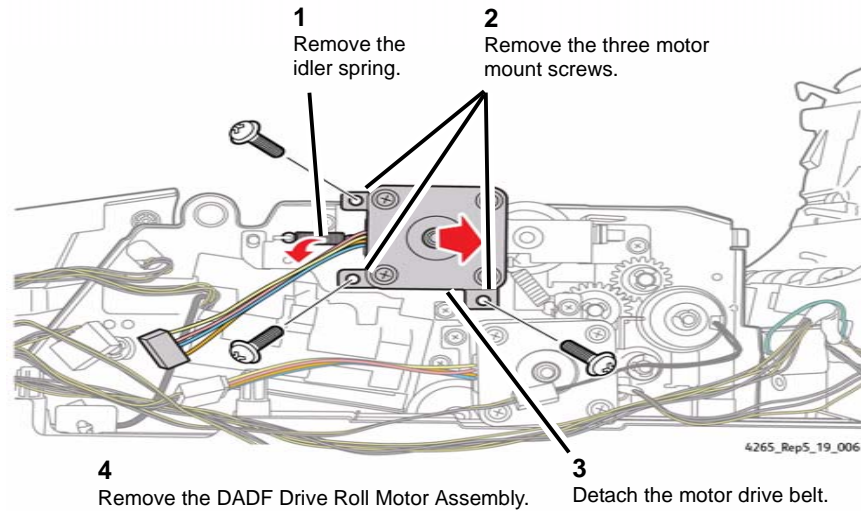

Figure 6 Removing the DADF Drive Roll Motor Assembly
9. Remove the DADF Drive Roll Motor Assembly (Figure 6).